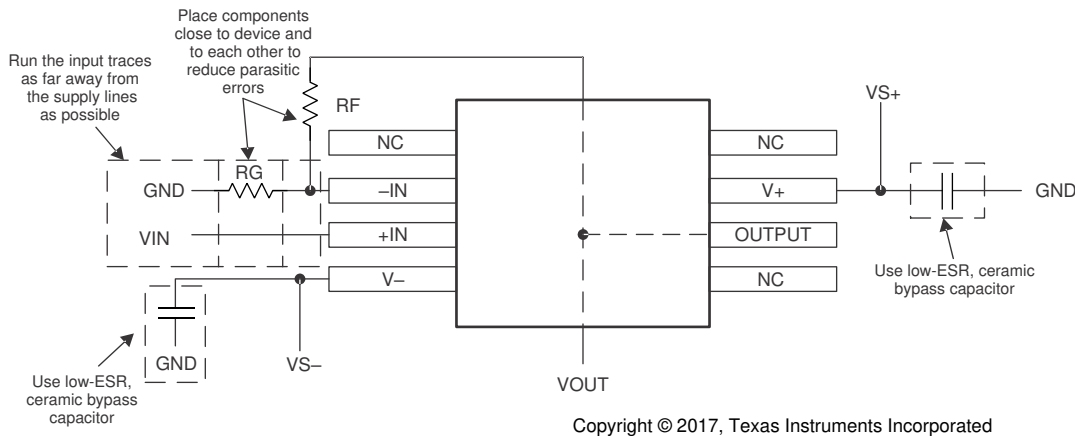

Figure 9-8. Layout Recommendation
- Place the external components as close to the device as possible. As Figure 9-8 shows, keep RF and RG close to the inverting input to minimize parasitic capacitance.